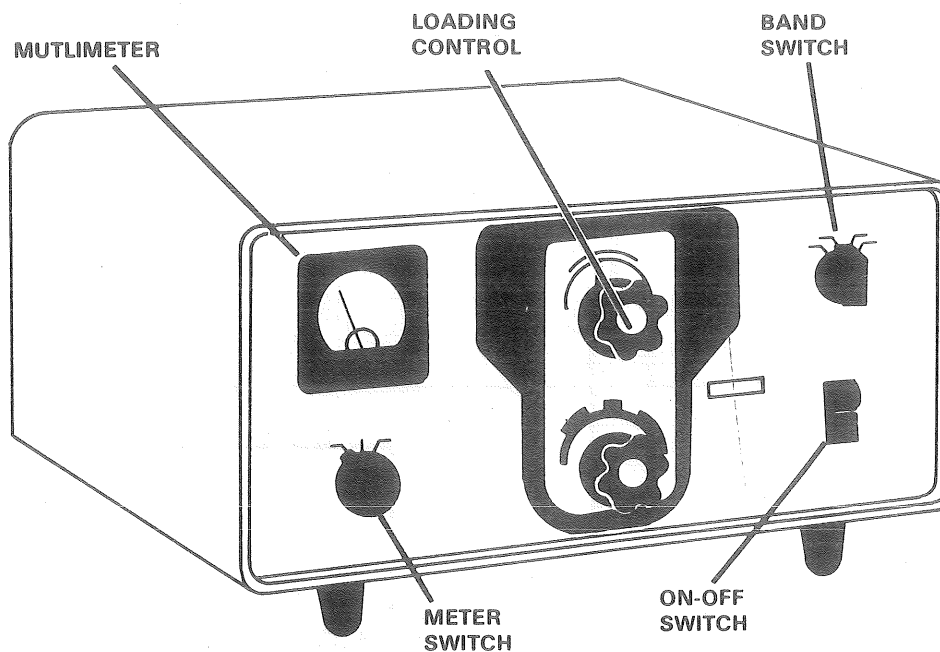

Figure 5. Operating Controls for Collins 30L-1.
- b. See figure 5 for operating control of RF AM-3979/FRC-93 (30L-1).